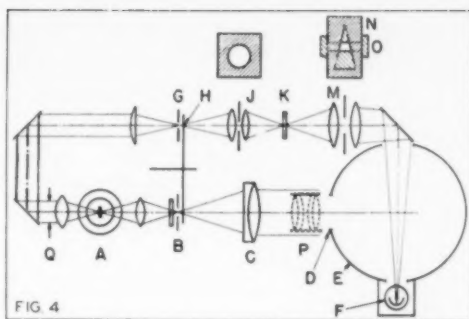

FIG. 4. Schematic arrangement of optical system.
Bell & Howell lenses are calibrated by an elaborate and precise instrument which employs the collimated beam method. Figure 4 shows the schematic arrangement of the optical system. A lamphouse (A) houses a 750 watt projection lamp whose filament is imaged in a small ($1/8$ " diameter) opening (B), which forms the source for a large collimating lens (C). An opening (D) in an integrating sphere faces this lens at a convenient distance. A holder is provided over this opening (D) into which slides, perforated with standard openings, may be inserted. Provision is made for mounting the lens (P) to be calibrated in front of the sphere opening so that all of the light leaving the lens is transmitted into the sphere. An electron multiplier photocell (F) is placed in the sphere wall at 90° to the window. This portion of the optical system is identical with the basic principles set forth by Daily.